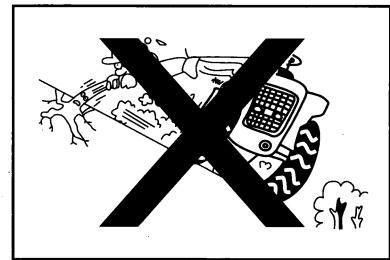

Figure1-61
- Travelling sideways or turning on a slope is very dangerous, don't try this operating. (Figure 1-61)